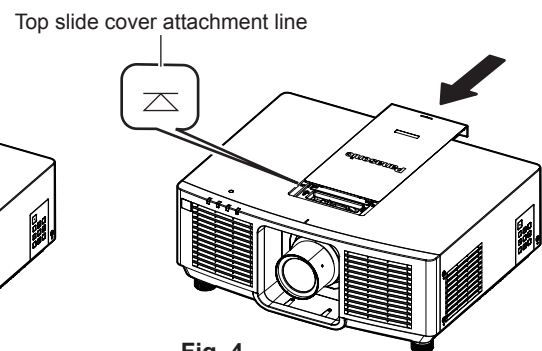

Fig. 4
- 5) **Attach the top slide cover. (Fig. 4)**